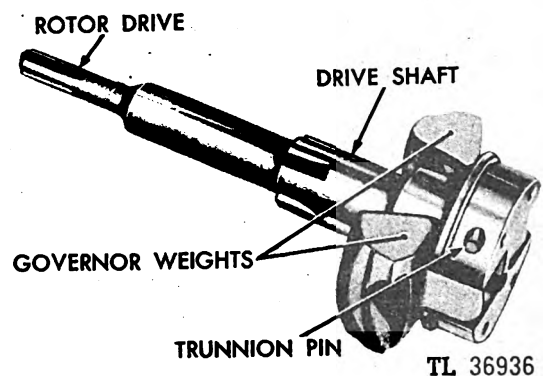

Fig. 284. Retainer and Swash Plate Assemblies
and swash plate thrust bearing can now be removed. (See Figure 284.)
(5) The swash plate thrust bearing is drilled for the communication of lubricating oil from the drilled passages in the body to the swash plate. (See Figure 284.) The timing pointer and dowel in the drive unit body serve as locating pins for the thrust bearing. The thrust bearing